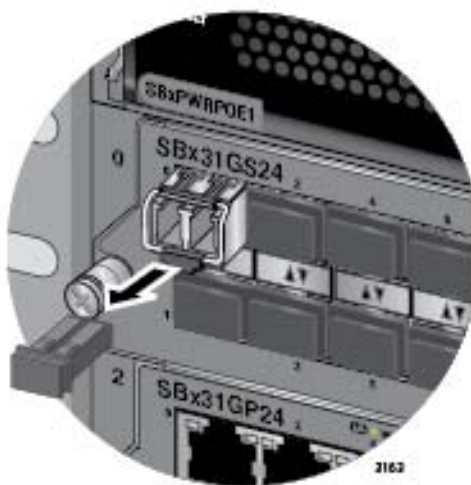

Figure 85. Removing the Dust Cover from the SFP Transceiver in the AT-SBx31GS24 Line Card
5. Remove the protective cover from the SFP transceiver, as shown in Figure 85.